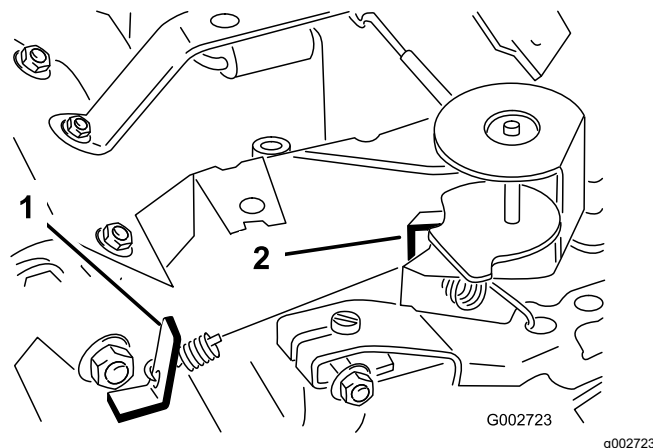

Figure 42
3. Bend the governed idle spring anchor tang (Figure 42) to attain an idle speed of 1,675 to 1,875 rpm.
6. Bend the high-speed spring anchor tang (Figure 42) to attain a high speed of 3,350 to 3,450 rpm.